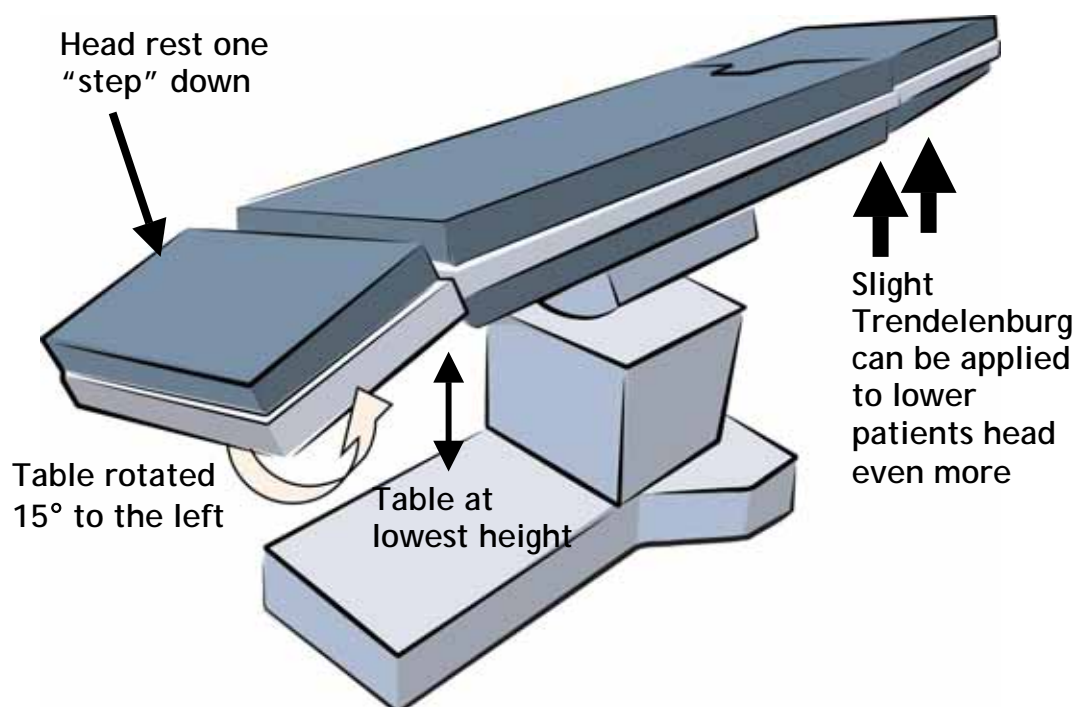

Figure 5: OR table set up for Atrial retractor as second left hand instrument with standard *da Vinci* and *da Vinci S*
- OR table set up for *EndoWrist* Atrial Retractor as second left hand instrument (standard *da Vinci* and *da Vinci S*) [Figure 5]: